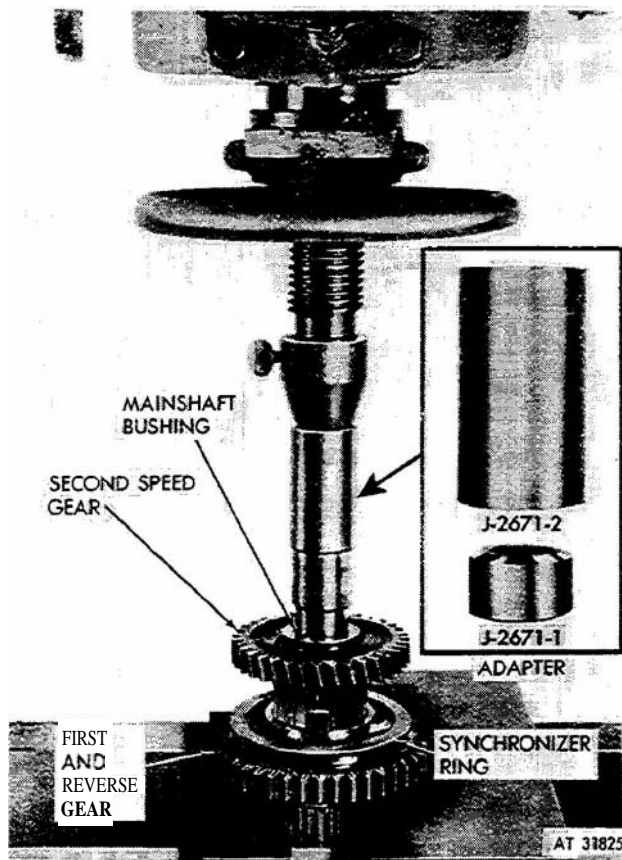

Figure 3-29. Pressing on mainshaft bushing:
(f) Support mainshaft in a suitable press on rear face of splined hub behind first and reverse gear (13) and press mainshaft bushing (9) onto mainshaft until it bottoms against second speed gear thrust washer (fig 3-29).